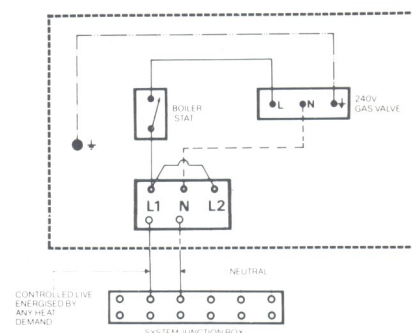

Fig. 3. Internal wiring and connections to AGA Hi-Light B50A and 045A.
All site wiring must conform to current I.E.E. regulations for the electrical equipment of buildings, Local Gas Region regulations, Local Authority requirements and, in Scotland, the electrical provision of Building Regulations applicable in Scotland. A 240v 50Hz AC supply, adequately earthed, is required near to the boiler, preferably by means of a double pole switch or unswitched plug and socket fused 3 amp. Minimum cross sectional area of incoming cable 0.75 mm² (e.g. 24/0.2 mm 3 core PVC insulated cable). All site wiring must be clear of sharp edges and hot surfaces and must be secured. All external wiring within the boiler casing should have a heat resistant sleeve. The control box of the boiler has connections for wiring to the electric supply and an external control system and it is recommended that connection is made to a system junction box as shown in Fig. 3. The boilers are suitable for use with all types of control system but it is recommended that controls are selected that isolate the boiler electrically at times of no demand.
6. Remove control box cover and make electrical connections to control box from mains and system controls – see wiring diagram (Fig. 3).